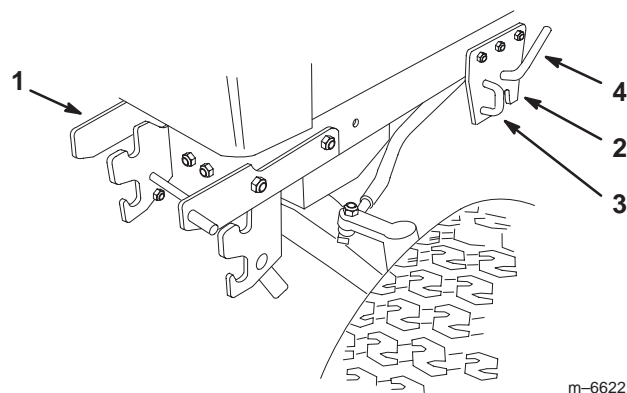

Figure 23
5. Open the mid-mount hitch by pulling out the J-pin and moving the lock handle rearward (Fig. 23).
11. If needed, remove the pulley box by pushing on the release lever and removing the pulley box (Fig. 23).